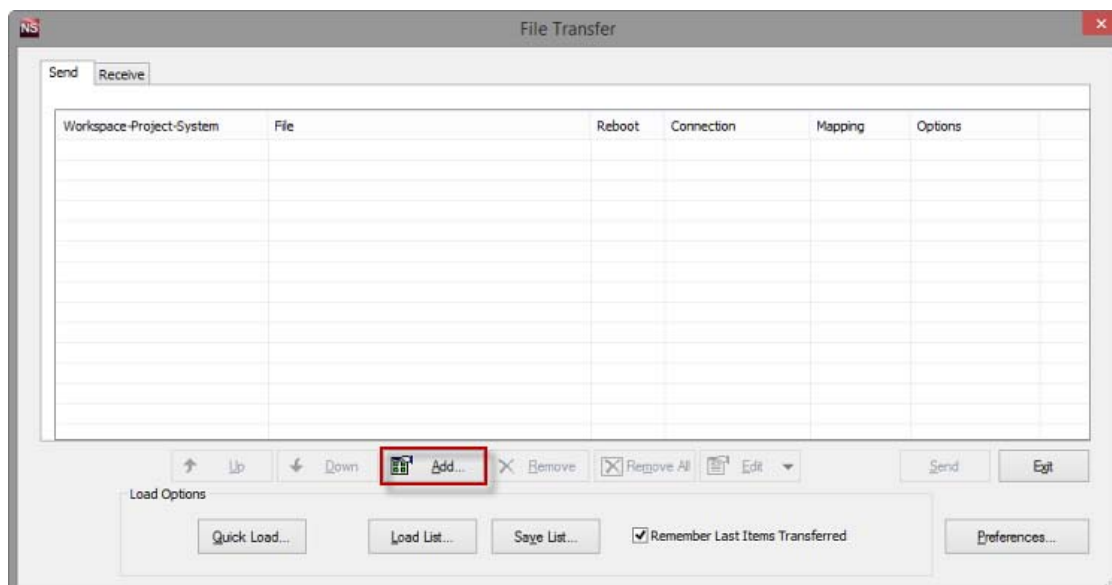

FIG. 140 NetLinx Studio 4 - File Transfer dialog
1. In NetLinx Studio 4, select **Tools -> File Transfer** to open the *File Transfer* dialog - *Send* tab (FIG. 140):